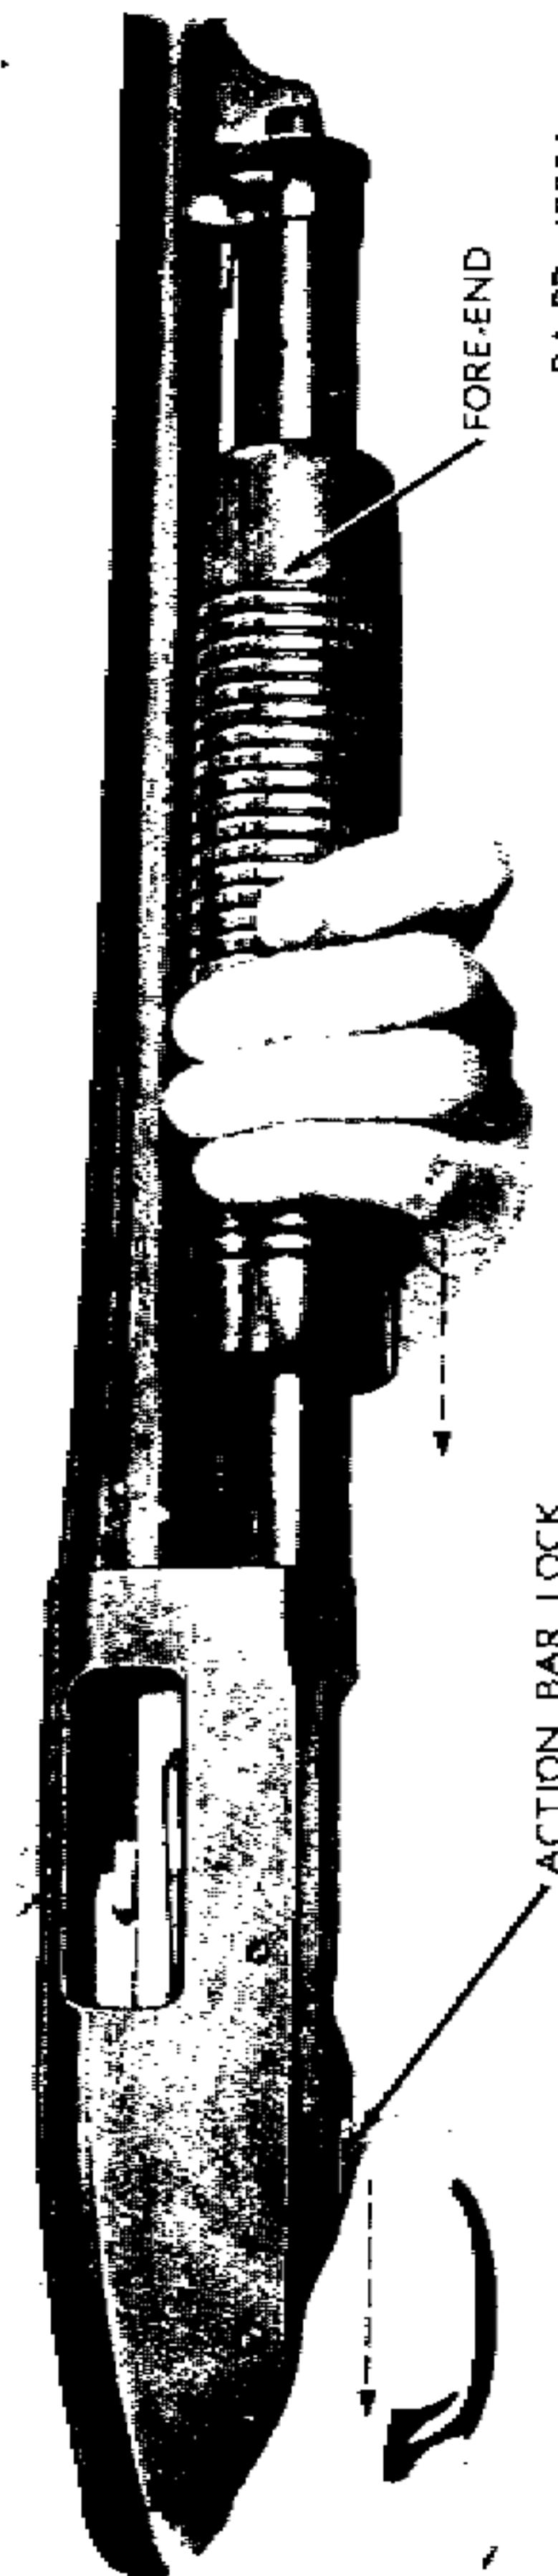

Figure 95—Disengaging Action Bar Lock and Retracting Fore End—Remington Shotgun M31
b. Before the fore end can be retracted the action bar lock must be disengaged from the slide (fig. 95). To facilitate this the fore end should be moved slightly forward to allow the lock to disengage. If the gun has been fired and the hammer consequently forward (down), the only movement necessary is to reciprocate the fore end as above, as the descending hammer and consequent forward movement of the mainspring follower (31 skeet grade) or hammer lug (31-A grade) has already disengaged the lock. If, however, the hammer is in the cocked position, it is necessary to press back on the lower end of the lock, which
(a) Press action bar lock located just forward of trigger plate bow, to release slide by disengaging lock, and pull fore end all the way to the rear (fig. 95). This disengages extractors from rear end of barrel.